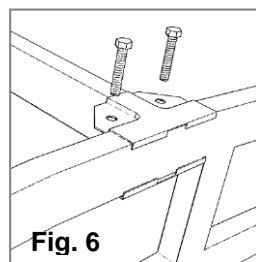

Fig. 6
5.3.2. Using mounting plates and runs, attach the arc to the end. Please note that the T-shaped plates are installed on the end (see Figure 6), and the X-shaped plates on the arc (Fig. 7). Lintels in arcs serve as stops for mounting plates. Fastener of the upper and lower runs are shown in Figure 8. A general view of the frame assembly is